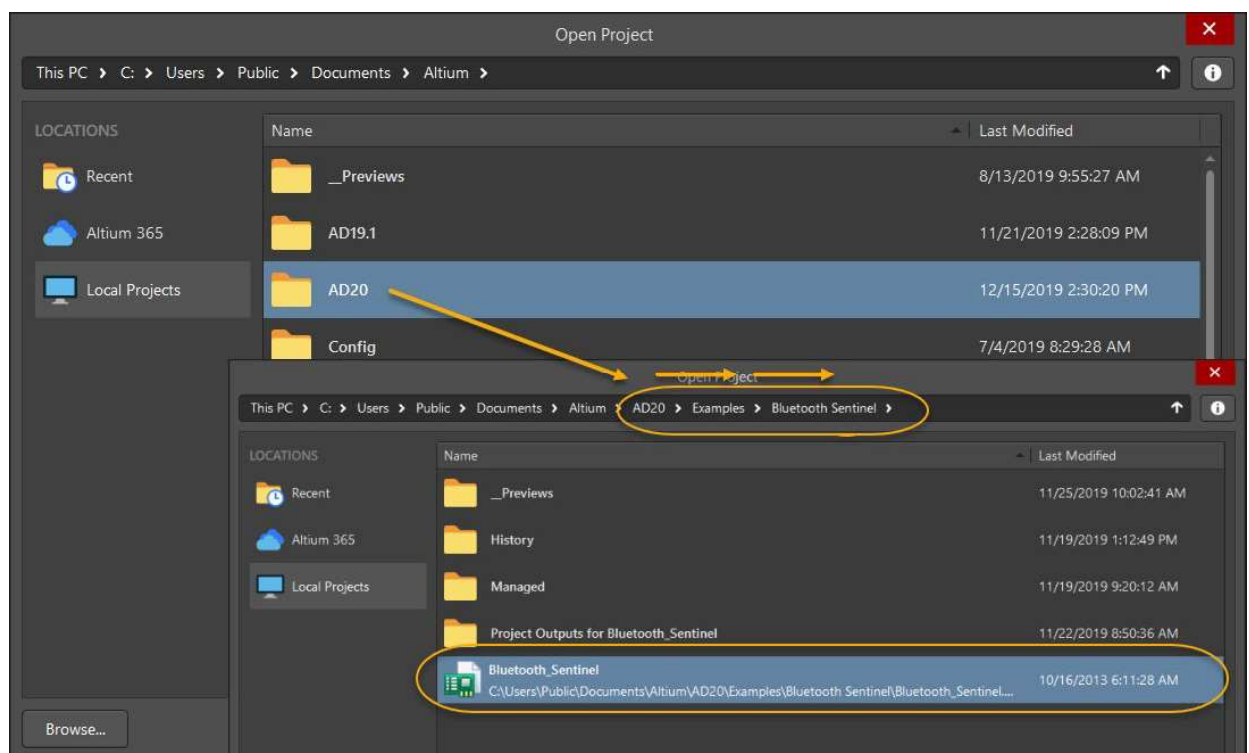

Figure 1. Open Project Dialog
2. Open the `Bluetooth_Sentinel.PrjPcb` from its Bluetooth Sentinel sub-folder as shown in Figure 1 below.